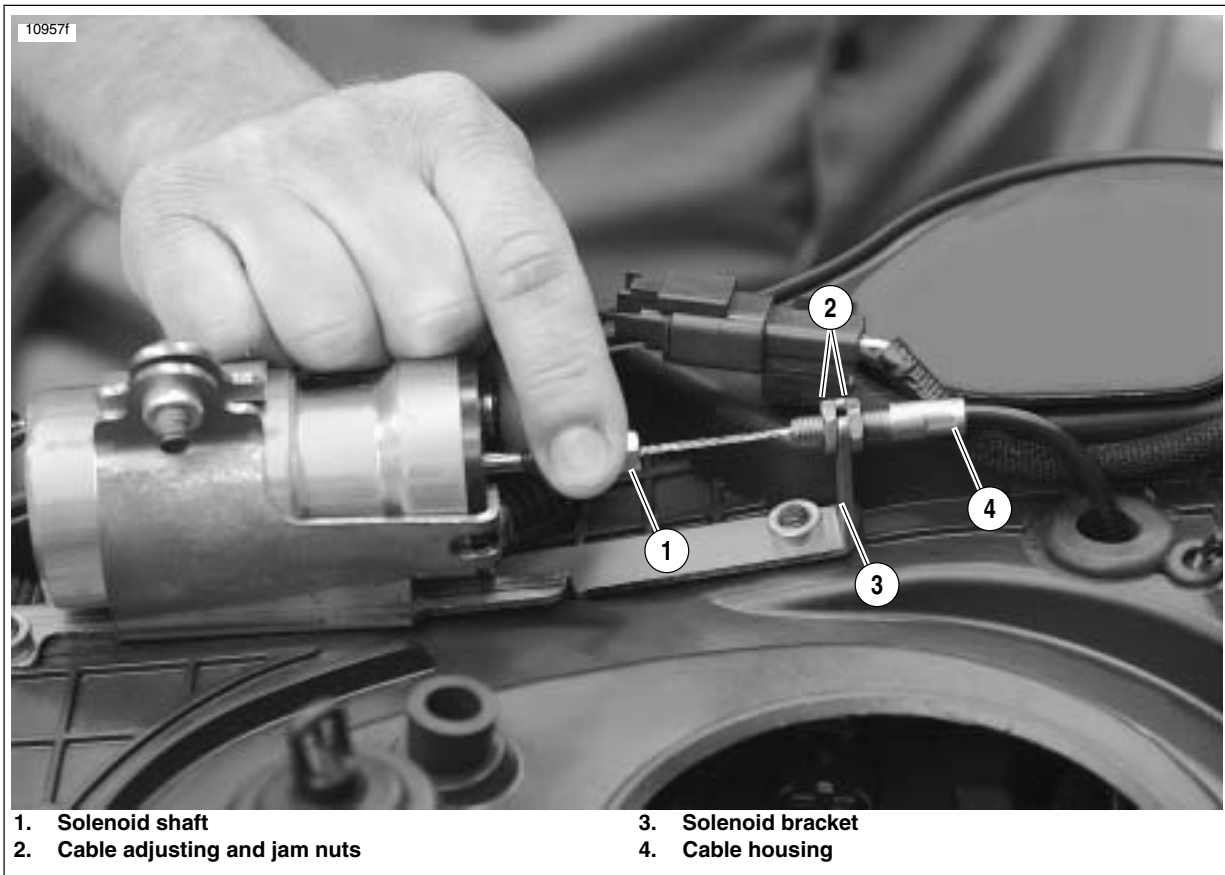

Figure E-1. Checking for Freeplay in the Solenoid Shaft in the Fully Retracted Position
2. See Figure E-1. Inspect for proper retraction freeplay in solenoid shaft:
- a. Open the throttle to the WOT position, push solenoid shaft (1) inward to the fully retracted position.